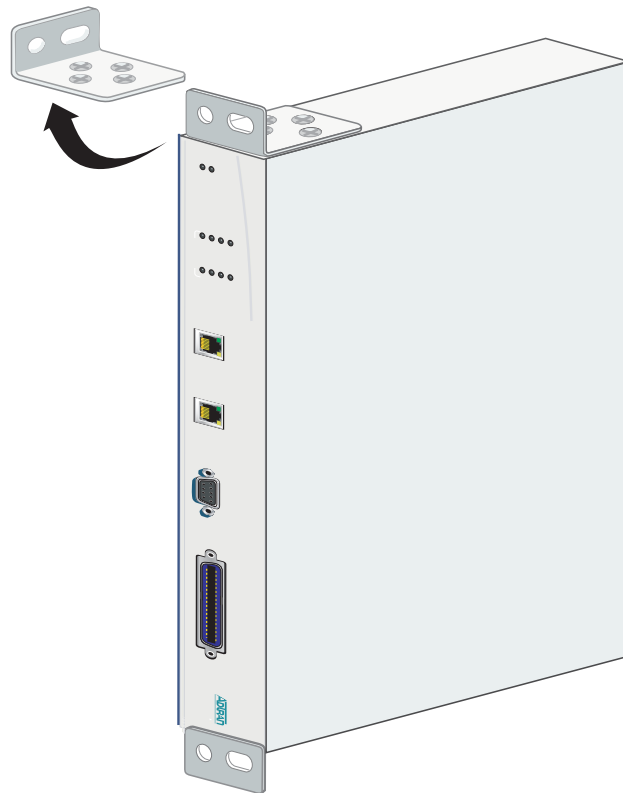

Figure 7. Repositioning the Brackets for Wallmounting
1.	<p>Remove the mounting brackets. (The Total Access 238 ships with mounting brackets attached for a 19-inch rackmount installation.) Rotate them 90° so that the portion of the bracket with the mounting holes (shorter side) is flush with the bottom of the chassis, and reattach them to the chassis (see <a href="#">Figure 7</a>).</p> <p>To avoid damaging the unit, use only the screws included in the shipment when attaching mounting ears to the chassis.</p>